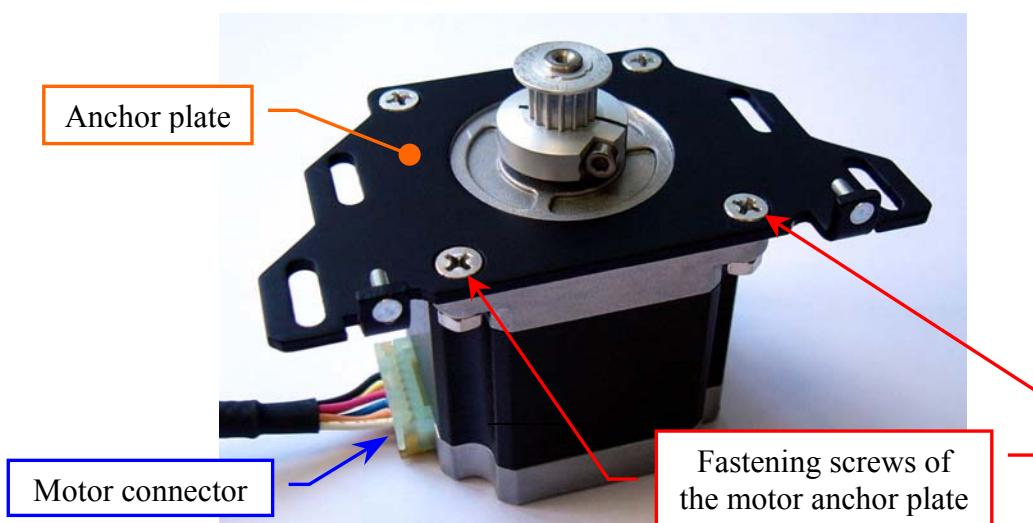

Fig. 103 – Satellites Mov. Samples Plate Motor anchor plate
5. Unscrew the four fastening screws of the Satellites Mov. Samples Plate Motor anchor plate (**Fig. 103**) and take out the anchor plate from the motor.
9. Position the anchor plate on the upper plane of the new motor as showed in **Fig. 103** and screw its four fastening screws.